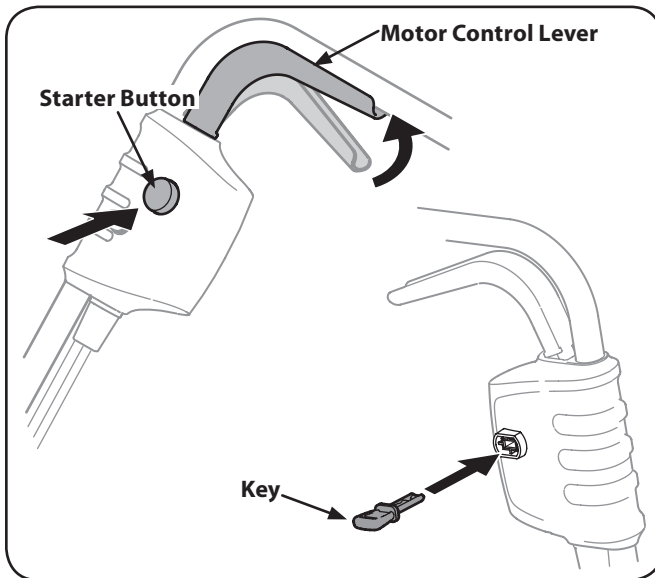

Figure 5-1
2. Insert key. Refer to Figure 5-1.
4. Press the red starter button and hold it in. See Figure 5-1.
5. While holding the starter button in, squeeze the motor control lever against the upper handle to start the motor and engage the auger. See Figure 5-1.